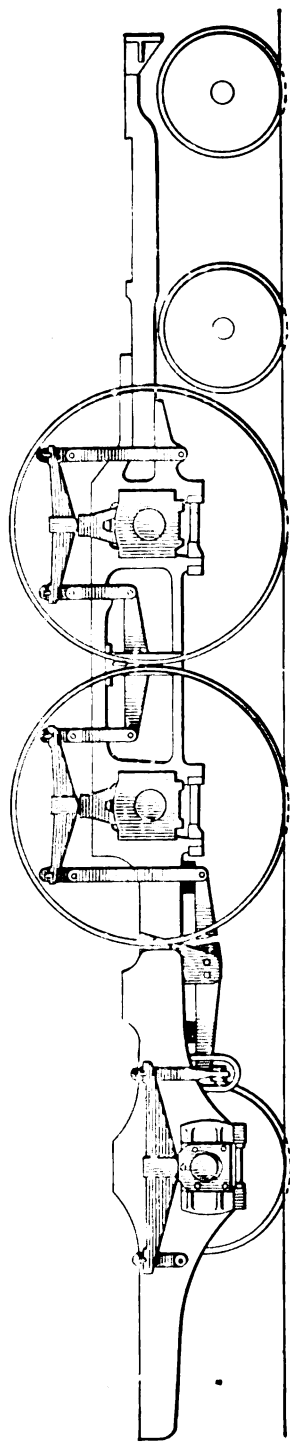

FIG. 46.
**100. If Break Occurs in Front of Fulcrum.**—When one of the trailer equalizers breaks, proceed as follows: If the equalizer breaks forwards of the fulcrum, as in Fig. 46, raise the back end of the engine on that side by means of a jack, or otherwise; then pry down the back end of the main spring and block between the bottom spring-hanger pin and the frame. The back hanger is made in two pieces, one of which